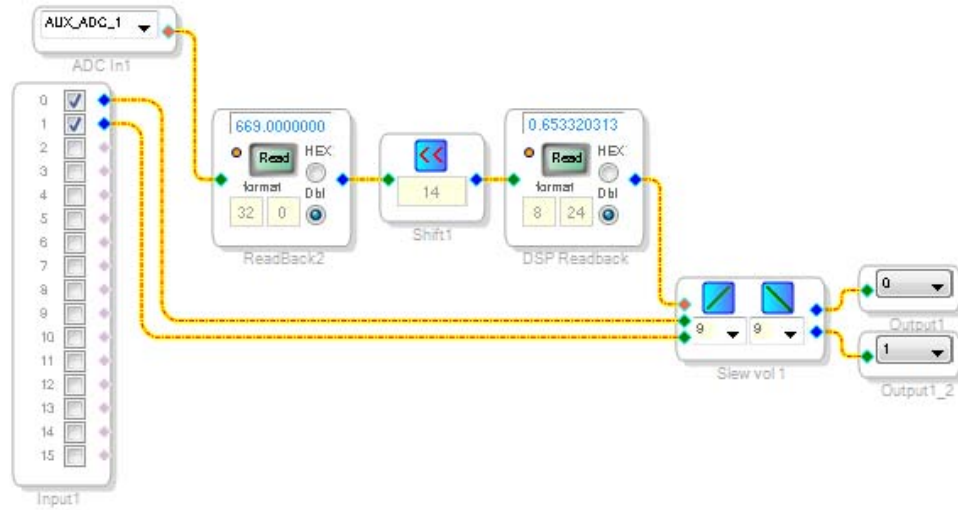

Figure 62. Completed Signal Flow with DSP Readback
- b. The arithmetic shift block performs a bitwise right shift or left shift. Click the blue button to select the direction. Ensure the block is performing a left shift. The block appears as shown in Figure 62.
- c. To set the number of bits by which the input is shifted to 14, click and type in the yellow text box. The block appears as shown in Figure 62.
- 7. Wire the blocks together as shown in Figure 62. Note that the position of blocks in the diagram does not matter.
The schematic (see Figure 62) shows audio from input Channel 0 and Channel 1 connected to the input of a volume control block. The volume is controlled by the value of the AUXADC1 channel, which is controlled by the left potentiometer (R1).